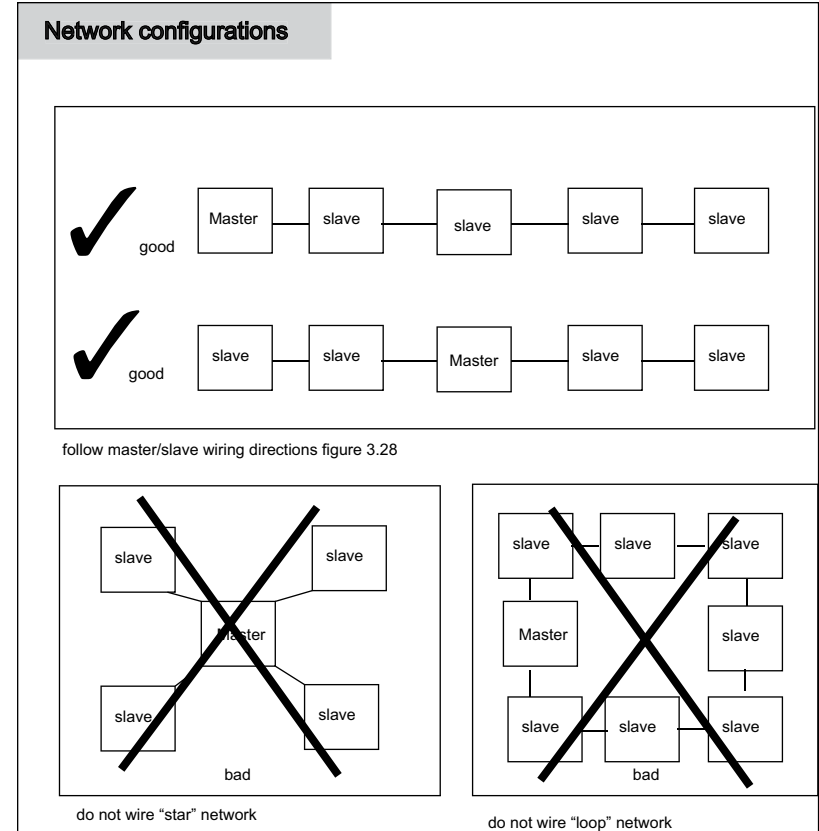

Figure 3.30
- Remove network terminal strip from any networked slave that is not powered. Network rewiring is required if a stub (*see note below) is created when a slave is taken off the network. See valid network configuration - see figure 3.30.
5X00 networks must be configured point to point (instrument to instrument). Network wiring cannot contain loops, stars, or stubs - figure 3.30.